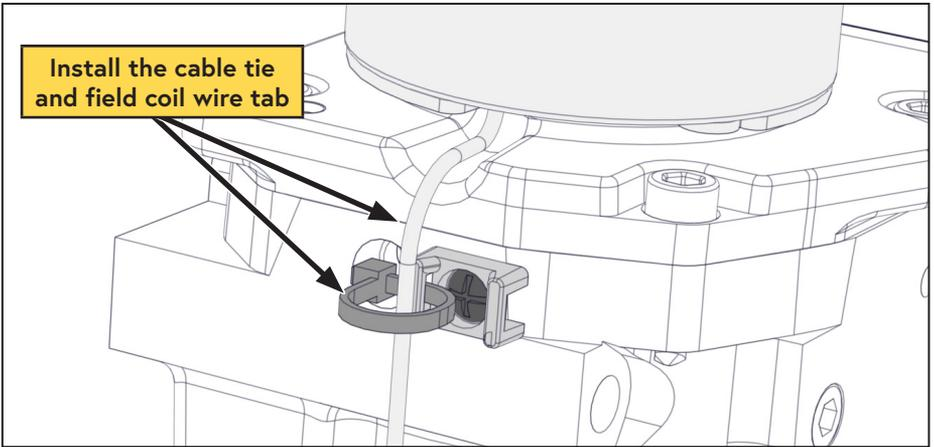

Figure 11 — Secure the field coil wire
- Secure the field coil wire using a cable tie and the cable tie tab on the side of the compressor (Figure 11).